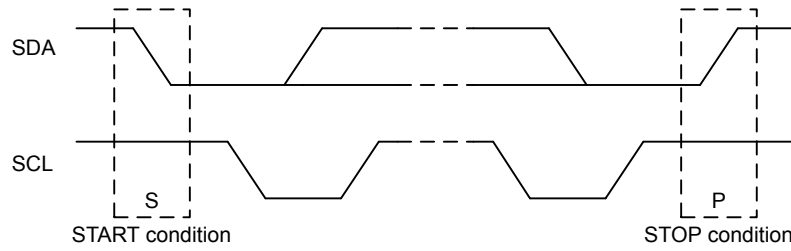

Figure 15.4. I2C START and STOP Conditions
START and STOP conditions are used to initiate and stop transactions on the I²C-bus. All transactions on the bus begin with a START condition (S) and end with a STOP condition (P). As shown in Figure 15.4 I2C START and STOP Conditions on page 413, a START condition is generated by pulling the SDA line low while SCL is high, and a STOP condition is generated by pulling the SDA line high while SCL is high.